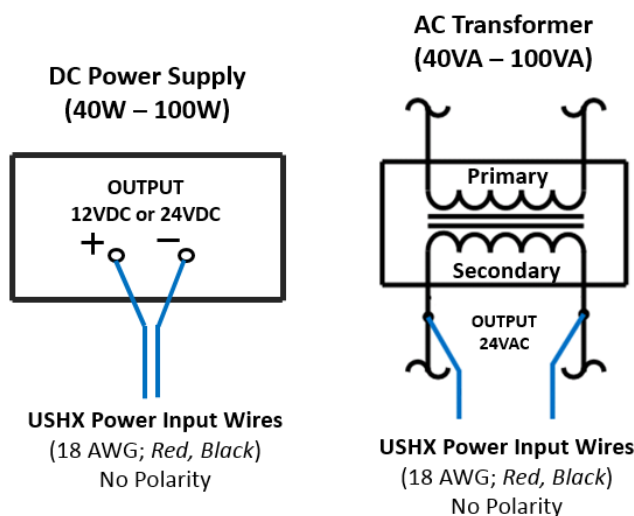

Figure 3-1 Class 2 DC and AC power sources
2. Obtain a **Class 2** 24 VAC transformer with a capacity of 40 to 100 VA and an output of 24 VAC at a frequency of 60 Hz. Alternatively, a 120 VAC to 12 VDC or 120 VAC to 24 VDC **Class 2** step-down power supply with a 40 to 100 W power rating may be used. The schematics of the power sources are shown below in **Figure 3-1**.